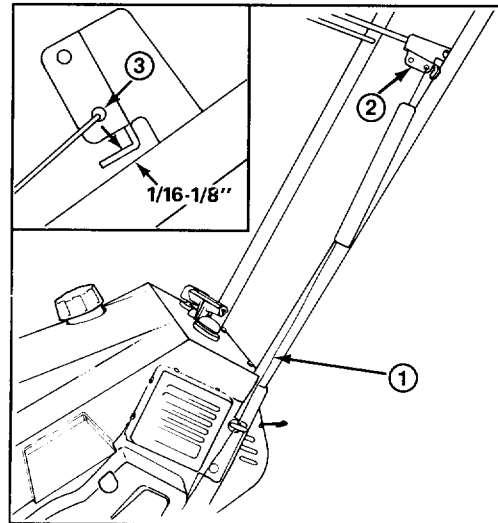

Figure 9
### ADJUSTING CONTROL BAR (Figs. 9 & 10)
2. **CHECK ADJUSTMENT** (Fig. 9)—Move control bar back toward handle until slack in cable is removed. Gap between control bar bracket and handle should be approximately 1/16"–1/8". If cable is too loose or too tight, proceed to step 3 for adjustment procedure.